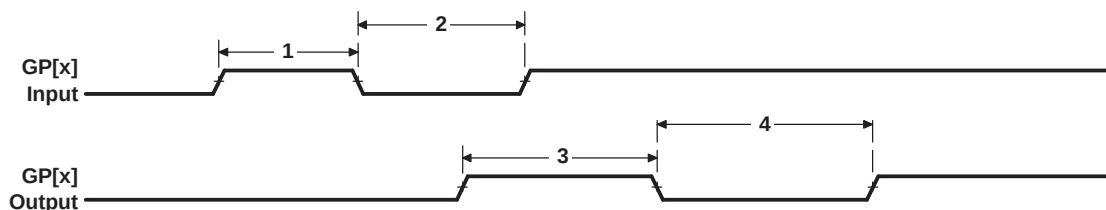

**Figure 6-50. GPIO Port Timing**
**Table 6-98. Timing Requirements for GPIO Inputs(1) (see Figure 6-50)**
- (1) The pulse width given is sufficient to generate a CPU interrupt or an EDMA event. However, if a user wants to have DM6435 recognize the GP[x] input changes through software polling of the GPIO register, the GP[x] input duration must be extended to allow DM6435 enough time to access the GPIO register through the internal bus.
- (2)  $C = \text{SYSCLK3 period in ns}$ . For example, when running parts at 600 MHz, use  $C = 10\text{ns}$ .
**Table 6-99. Switching Characteristics Over Recommended Operating Conditions for GPIO Outputs (see Figure 6-50)**